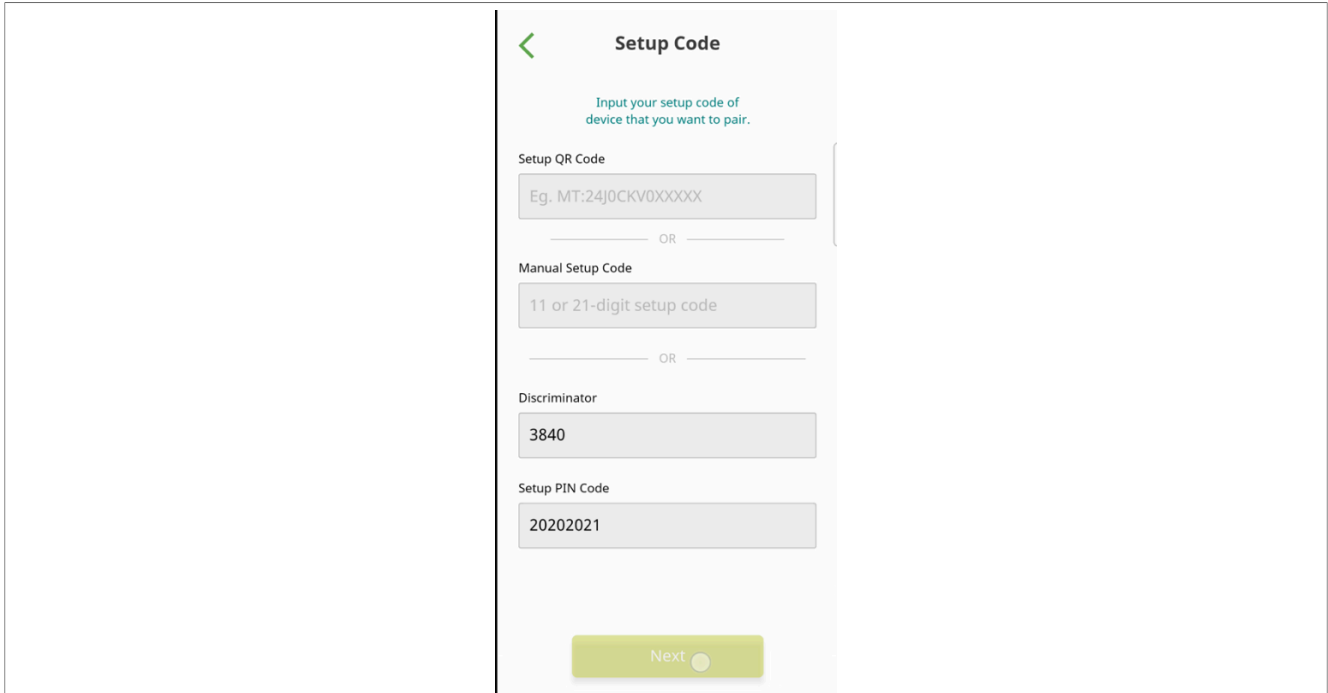

Figure 23. Enter the discriminator and PIN code of W71
2. Enter the discriminator and PIN code (the default ones are 3840 and 20202021 respectively) to commission FRDM-MCXW71 as shown in Figure 23